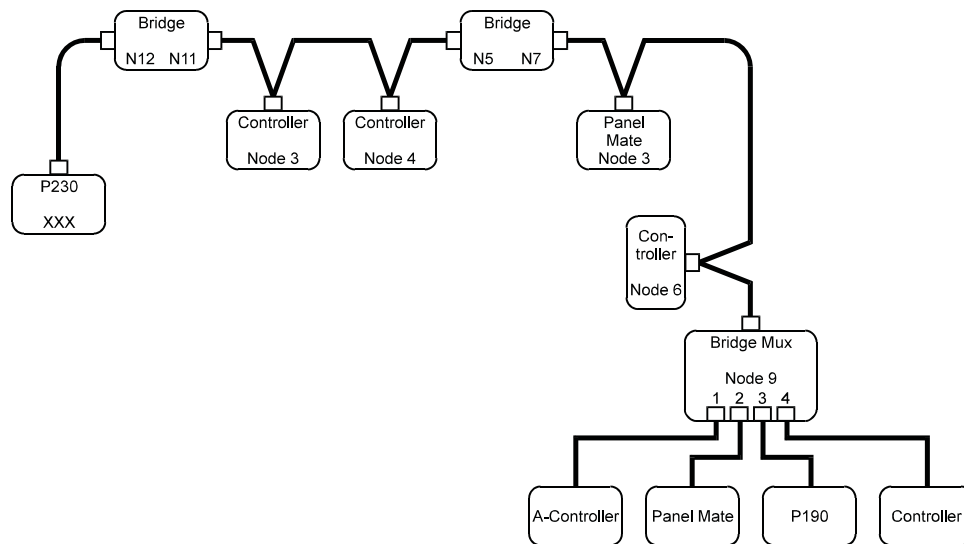

Figure 3-1
- You can usually locate the Modbus Plus Data Highway Chart next to the Machine print taped on the work cabinet door. *See Figure 3-1.*